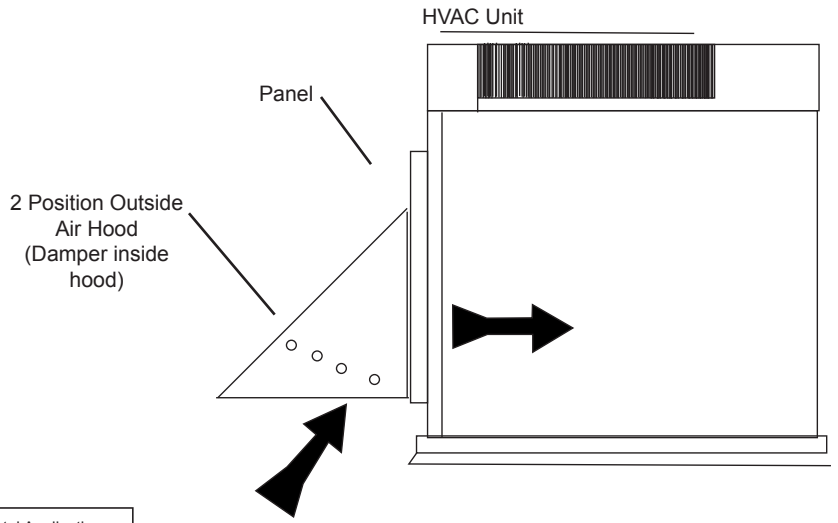

Fig. 2 - Vertical Application - Side View
3. Caulk or gasket the back side of the outside air hood. Secure the hood to the Replacement Panel as shown in Fig. 2. Screw in place through pre-punched holes.